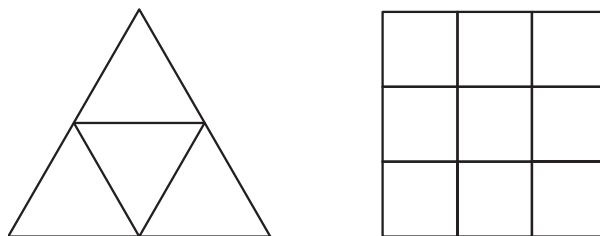

Fig. 5-16
7. The two objects shown in Fig. 5-16 are composed entirely of equal-sided and equal-sized polygons with common edges surrounding a central polygon. Can this be done with equal-sided and equal-sized polygons of any number of sides? Answer this question by trying to draw such objects using the **POLYGON** command with polygons of five, six, seven, and eight sides.